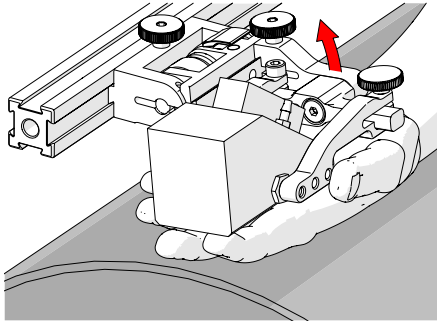

Fig. 203 - Lift to Latched position
1. Ensure probe holder is in latched, upper position (Fig. 203). If the probe holder is already latched, it will only move within the slip joint adjustment range and have no spring tension.
1. Ensure the probe holder is in the upright latched position (Fig. 203).